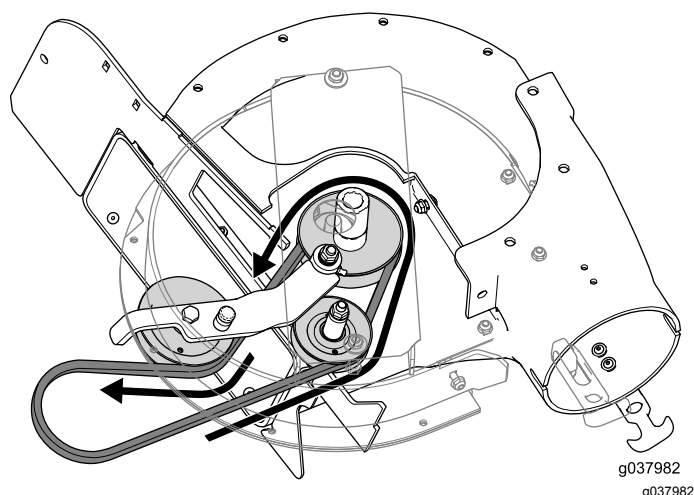

Figure 37
3. Install the belt around the pulleys inside the blower (Figure 37).
4. Tighten or install the guide pin (Figure 37).